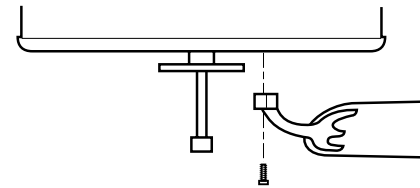

Figure 6c - Attaching Blade Irons to Hub of Fan Assembly
4. For each blade, insert one blade mounting screw through the blade iron as shown in Figure 6c, and attach lightly to the fan. Insert the second blade mounting screw, then securely tighten both mounting screws.